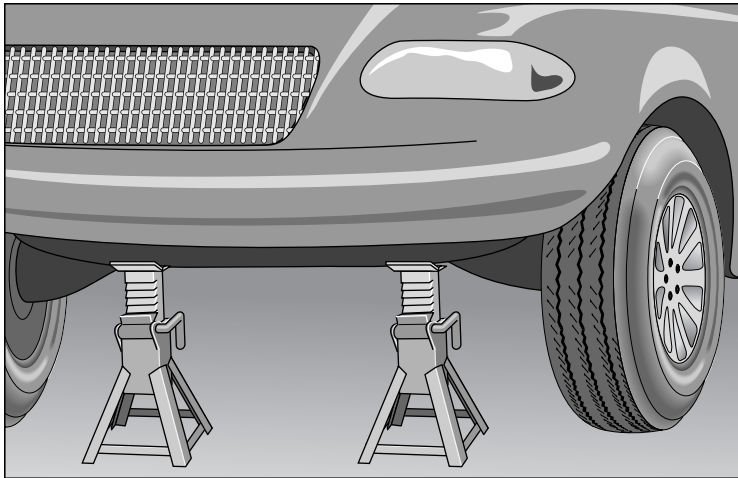

Figure 1-2: Jack stands hold your vehicle up safely.
4. Place the jack stands under the vehicle, near where the jack is touching it (see Figure 1-2). Raise the stands until they're high enough to just fit under, and lock them in place. Lower the jack until the vehicle is resting on the jack stands.